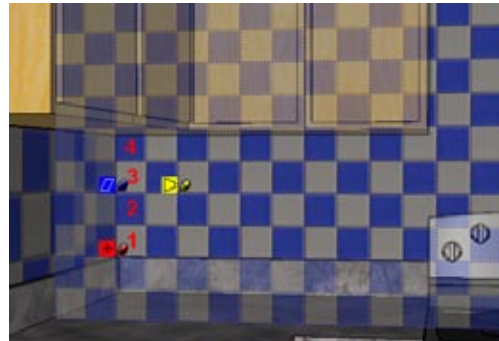

Figure 8-60
8. Now look at one column of tiles. Your scale might be different, but Figure 8-60 shows about four tiles spaced between the counter and cabinet.